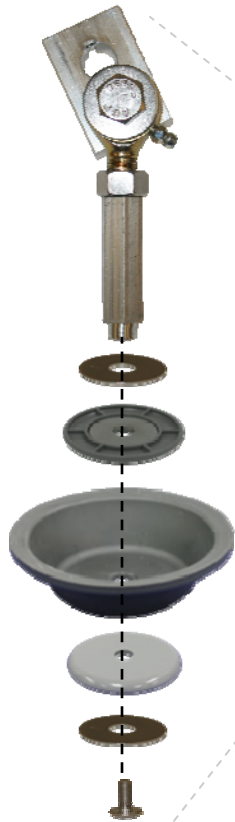

Figure 4a
2. Insert Diaphragm Screw through Lower Stainless Steel Washer, Lower Button, Diaphragm, Upper Button, Upper Stainless Steel Washer and into Connecting Rod, as shown in Figure 4a, and tighten.